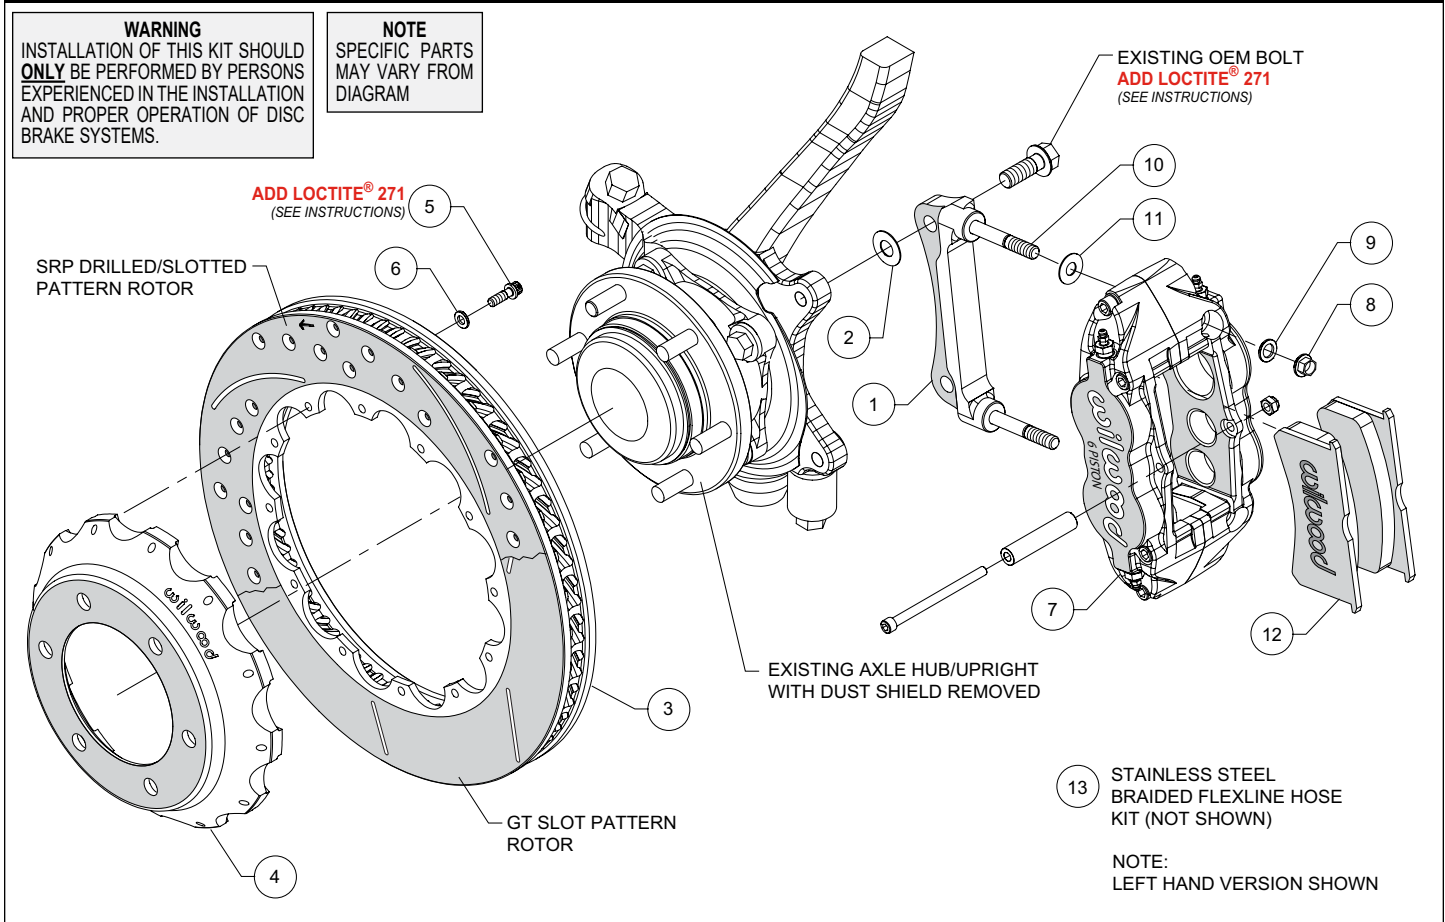

Figure 1. Typical Installation Configuration
**NOTE:** Numbers in parenthesis refer to the parts list and Figure 1 on the preceding pages.
- The caliper mount bracket (1) should initially be installed with clean, dry threads on the mounting bolts. Orient the bracket as shown in Figure 1 and Photo 2 and install using saved OEM mount bolts. Initially place one .033" thick shim (2) on each bolt between the bracket and upright, Figure 1. Temporarily tighten the mounting bolts. **NOTE:** The bracket must fit squarely against the mounting points on the upright. Inspect for interference from casting irregularities, machining ridges, burrs, etc. Later, after the caliper alignment has been checked, the mount bolts will be secured using red *Loctite*® 271.
- Orient the rotor (3) and the hat (4) as shown in Figure 1 and Photo 3. Attach rotor to hat using bolts (5) and washers (6). Apply red *Loctite*® 271 to the bolt threads and torque to 155 **in-lbs** using a criss-cross pattern. For an added measure of security, the bolts may be safety wired using standard 0.032 inch diameter stainless steel safety wire as shown in Figure 3. Please refer to Wilwood's data sheet DS-386 (available at [www.wilwood.com/Pdf/DataSheets/ds386.pdf](http://www.wilwood.com/Pdf/DataSheets/ds386.pdf)) for complete safety wire installation instructions.
- NOTE:** This kit contains distinct right and left hand calipers that must be mounted in a specific direction, as described below. Initially place one .035" thick shim (11) on each stud (10) between the caliper and the bracket, as shown in Figure 1 and Photo 6. Mount the caliper (7) onto the bracket (1) using lock nuts (8) and washers (9), Figure 1. Ensure that the caliper is mounted so the largest pistons are at the rotor exit end of the caliper, in relation to the direction of rotor rotation. Temporarily tighten the lock nuts and view the rotor through the top opening of the caliper. The rotor should be centered in the caliper, Photo 7. If not, adjust by adding or subtracting shims (2) between the bracket and the upright. Always use the same amount of shims on each of the two mounting bolts. Once the caliper alignment is correct, remove the bracket mounting bolts one at a time, apply red *Loctite*® 271 to the threads, and torque to manufacturer's specifications.